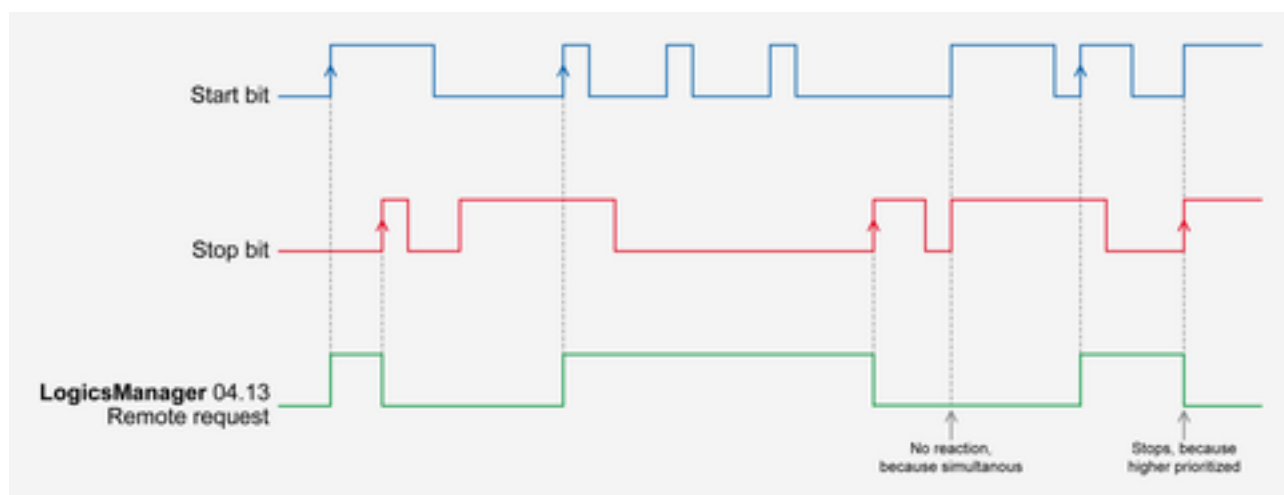

Fig. 224: Command variable
- The command variable "04.13 Remote request" changes to "0" (low) if the stop bit (ID 503, bit 1) changes from "0" to "1" (Fig. 224).